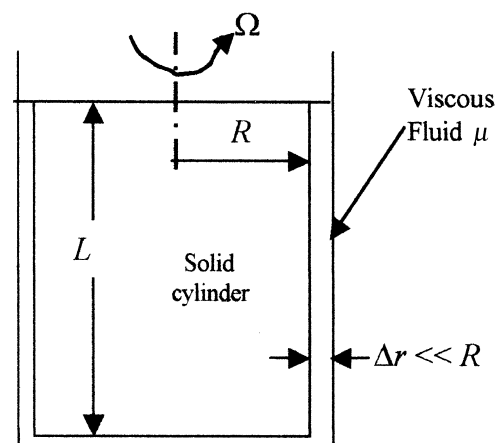

Fig. C1.6
**C1.6** The *rotating-cylinder viscometer* in Fig. C1.6 shears the fluid in a narrow clearance,  $\Delta r$ , as shown. Assume a linear velocity distribution in the gaps. If the driving torque  $M$  is measured, find an expression for  $\mu$  by (a) neglecting, and (b) including the bottom friction.
**C1.8** A mechanical device, which uses the rotating cylinder of Fig. C1.6, is the *Stormer viscometer* [Ref. 27 of Chap. 1]. Instead of being driven at constant  $\Omega$ , a cord is wrapped around the shaft and attached to a falling weight  $W$ . The time  $t$  to turn the shaft a given number of revolutions (usually 5) is measured and correlated with viscosity. The Stormer formula is